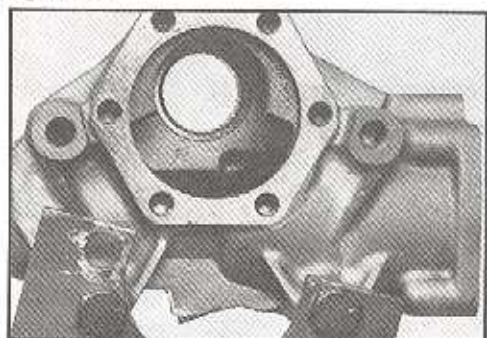

Figure 148
38. Position the housing (147) firmly in vise as it was for disassembly procedures. SEE FIGURE 148.